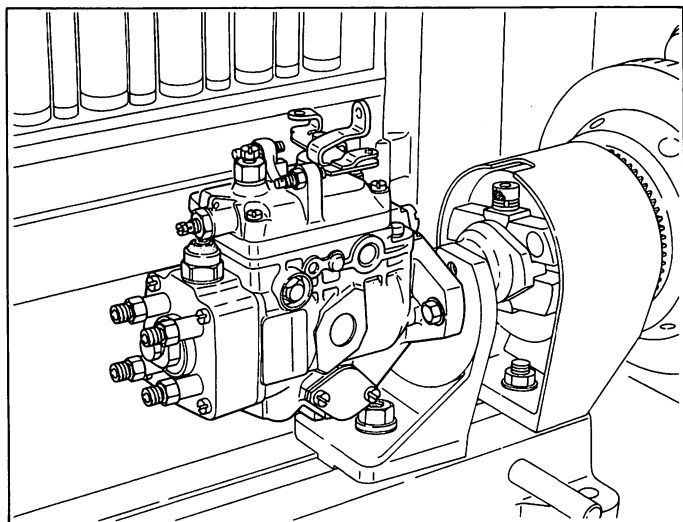

Fig. 100 Mounting the injection pump
2. Mount the injection pump on the fixing stand (105781-0360) and connect it to the injection pump test stand. (Fig. 100)